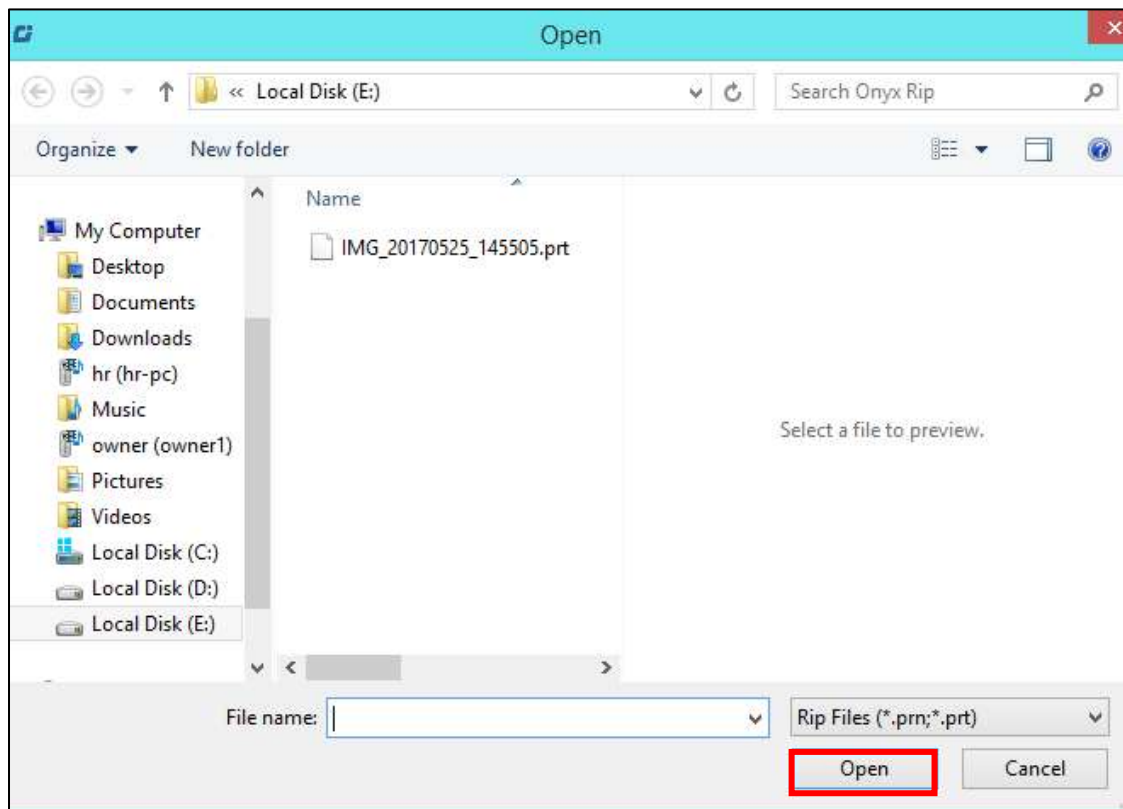

Fig 76: Adding the Job
Step 2: Navigate to the location where the image file with extension **".prt"** and **".prn"** is stored (Refer to Fig 76).